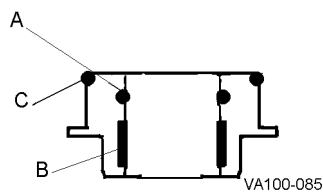

Figure 21 - Lower Bearing Carrier
1. Remove and replace the o-ring (Figure 21, item A) located inside the lower bearing carrier.
2. Check the split bearing (Figure 21, item B) inside the lower bearing carrier by feeling the amount protruding from the lower bearing carrier wall. If the bearing is flat against the wall, replace the bearing.
7. To remove the outer o-ring (Figure 21, item C), slide or cut the o-ring off the lower bearing carrier. Do not nick or scratch the o-ring groove.